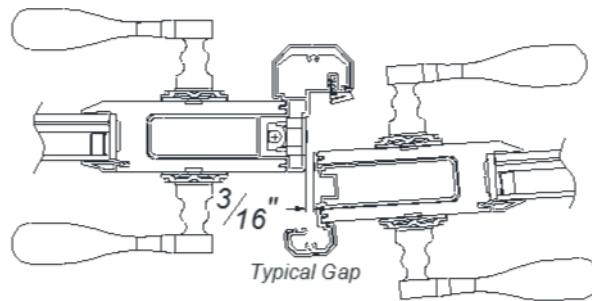

Figure 11
3. **Check** door alignment. **If a single door**, check against the frame jamb. **If a double door**, check against the inactive panel. $3/16"$ of space should be showing when the active panel is slightly ajar (Figure 11).